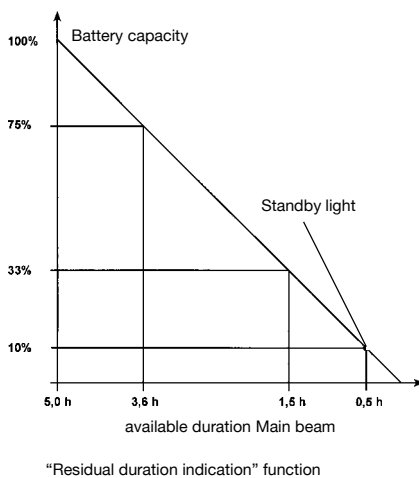

fig. 3
A two-colour LED (laterally arranged near the handle) indicates the available duration and thus the battery's charging status (fig. 3).
3. Fit in the new battery set and close in inverse order (fig. 3).